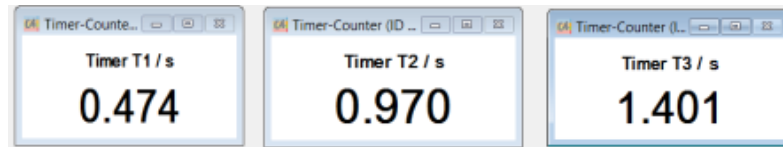

Figure 3.17: Measured values.
- 11- Stop the measurement by pressing the “Stop” button (■) after the cart (11) hits the tube with plug (10).
- 12- The data will appear as shown in Figure 3.17.